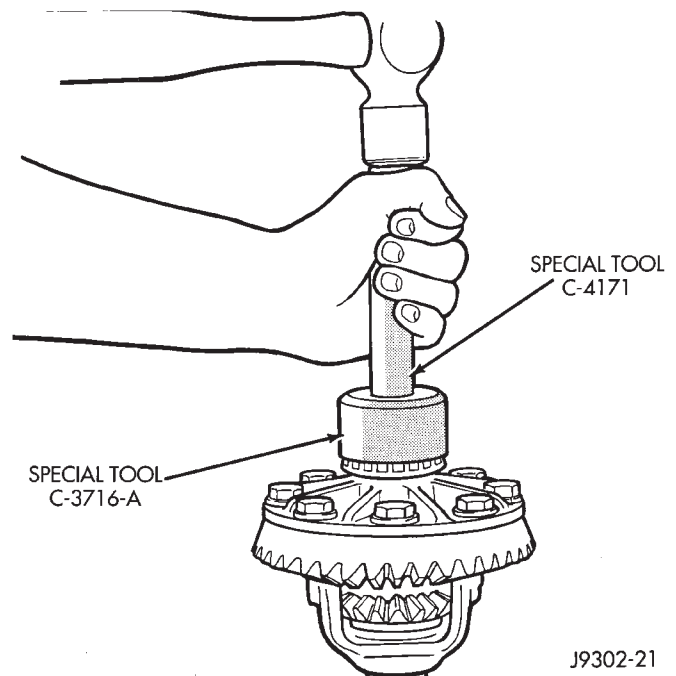

Fig. 24 Differential Side Bearing Installation
- (1) Install differential side bearing shims onto differential case hubs.
- (2) Using Installer C-3716-A and Handle C-4171, install differential side bearings (Fig. 24).
- (3) Install differential in axle housing.